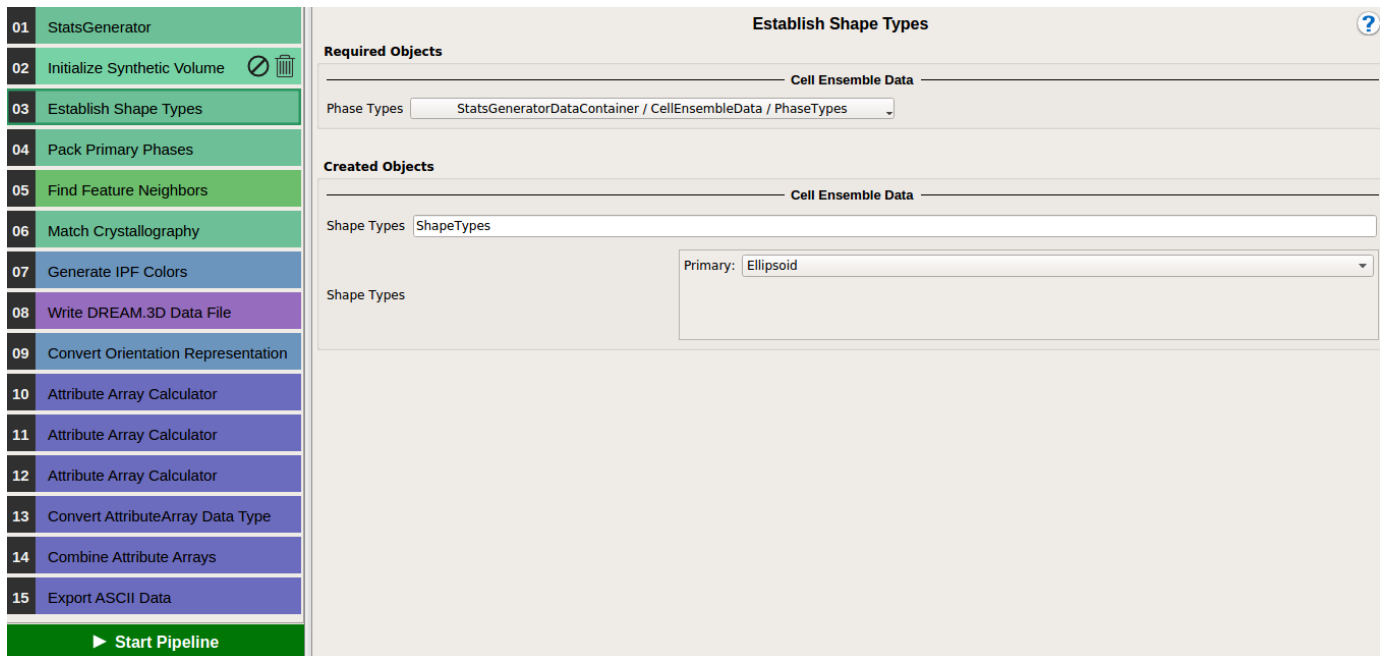

Figure 7: Establish shape types
6. Copy the **Establish Shape Types** filter to the pipeline window. Here one can choose the approximate shape of the grain. The available options are ellipsoid, superellipsoid, cube octahedron and cylinder(A,B,C). We choose the grain shape as an ellipsoid (Fig. 7).